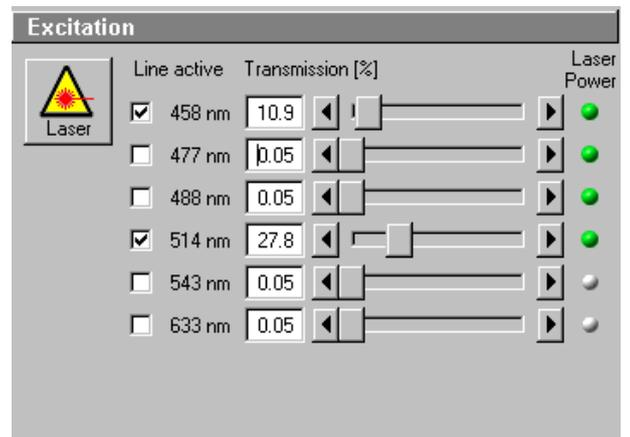

Fig. 21 Scan Control window, Channel settings
- Set the **Pinhole** to **1 Airy Unit** (Fig. 21).
- When the image is saturated, reduce AOTF transmission in the **Excitation** panel (Fig. 21) using the slider to reduce the intensity of the laser light at the specimen.
- Increase the **Amplifier Offset** until all blue pixels disappear, and then make it slightly positive (Fig. 21).